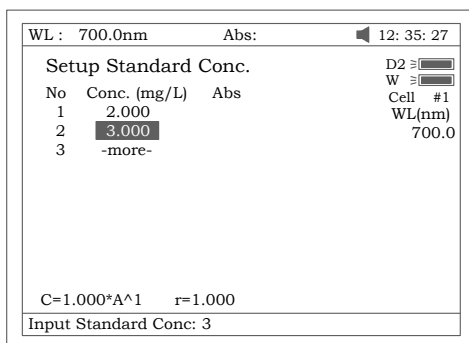
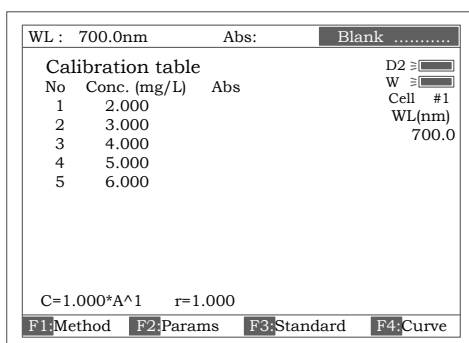

Fig 31
Fig 32
3. 3. 1 Enter standard concentrations of samples by pressing the Numeric keypad followed by **【ENTER】**. Press **【^】** or **【v】** to modify the inputted data (Fig 31). Press **【ESC/STOP】** to finish inputting and to exit (Fig 32).
3.3.2 Push the blank cuvette into the Reference Light Path and Main Light Path, press **【0Abs/%100T】**, the instrument will step to the wavelength and blank. See Fig 32.